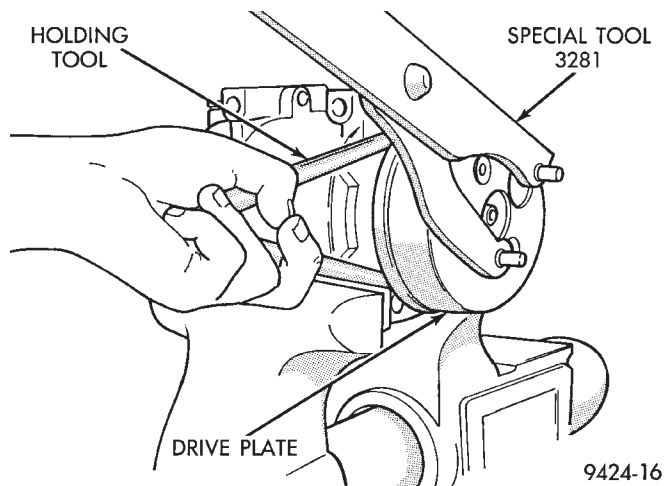

Fig. 26 Drive Plate Remove
(1) Remove the compressor and clutch from the vehicle as described in this group.
(2) Mount the compressor in a vise and remove the bolts that secure the drive spool to the drive plate.
(3) Remove the compressor drive plate with a spanner wrench (Special Tool 3281). Turn the drive plate counterclockwise to remove (Fig. 26).